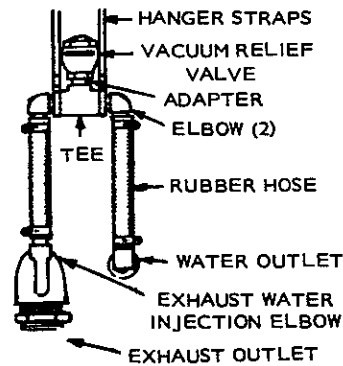

FIGURE 6-41. SIPHON BREAK ASSEMBLED
1. Install two elbows using adapters in opposite ends of Tee, Figure 6-41.